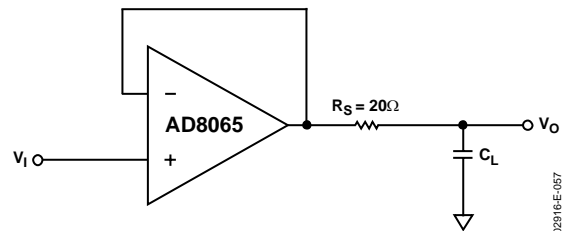

Figure 57. Output Isolation Resistor
- As shown in Figure 57, put a small value resistor (R_S) in series with the output, to isolate the load capacitor from the amp's output stage. A good value to choose is $20\ \Omega$ (see Figure 10).